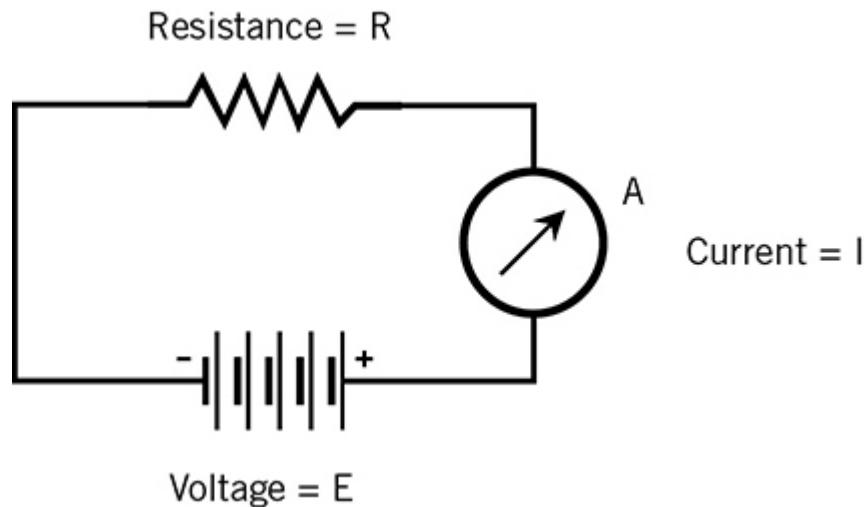

FIG. 1-2 Schematic that includes a battery, a resistor, and an ammeter (labeled A).
- A *schematic diagram* (often simply called a *schematic*) shows every component in a circuit. Each component has its own special symbol. Lines between the components reveal how they connect together, and to a source of power, so they perform a specific function or operation. This book deals mostly with schematics. Figure 1-2 is a simple example.